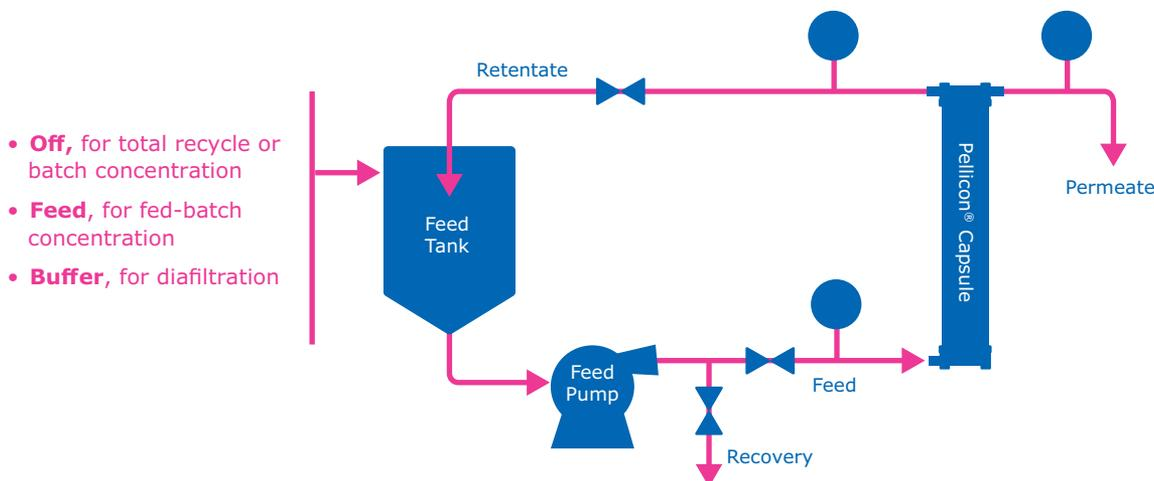

Figure 8. Example of a TFF system with Pellicon® Capsule.
1. Install Pellicon® Capsule(s) with 30 kDa Ultracel® membrane into the single-use TFF system (Figure 8) for the filtration of modified mAb or ADC with molecular weight of ~150 kDa. Installation of the capsule does not require a compression holder or single-use liners/insert plates to contain the feed solution.³